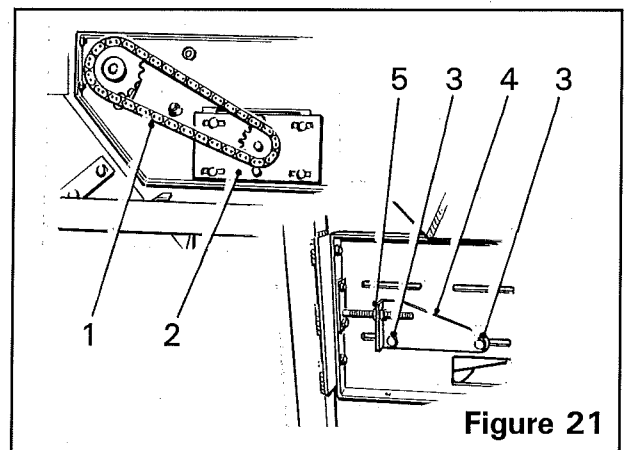

Figure 21
The drive chain (*item 1, figure 21*) is tensioned by sliding the motor mounting plate (*item 2, figure 21*) sideways. To tension or track the cross conveyor web, slacken the mounting bolts (*item 3, figure 21*) and adjust the front and rear roller plates (*item 4, figure 21*) by turning the locknuts (*item 5, figure 21*). An inspection plate is fitted to the cross conveyor which allows small stones to be removed from inside the web.